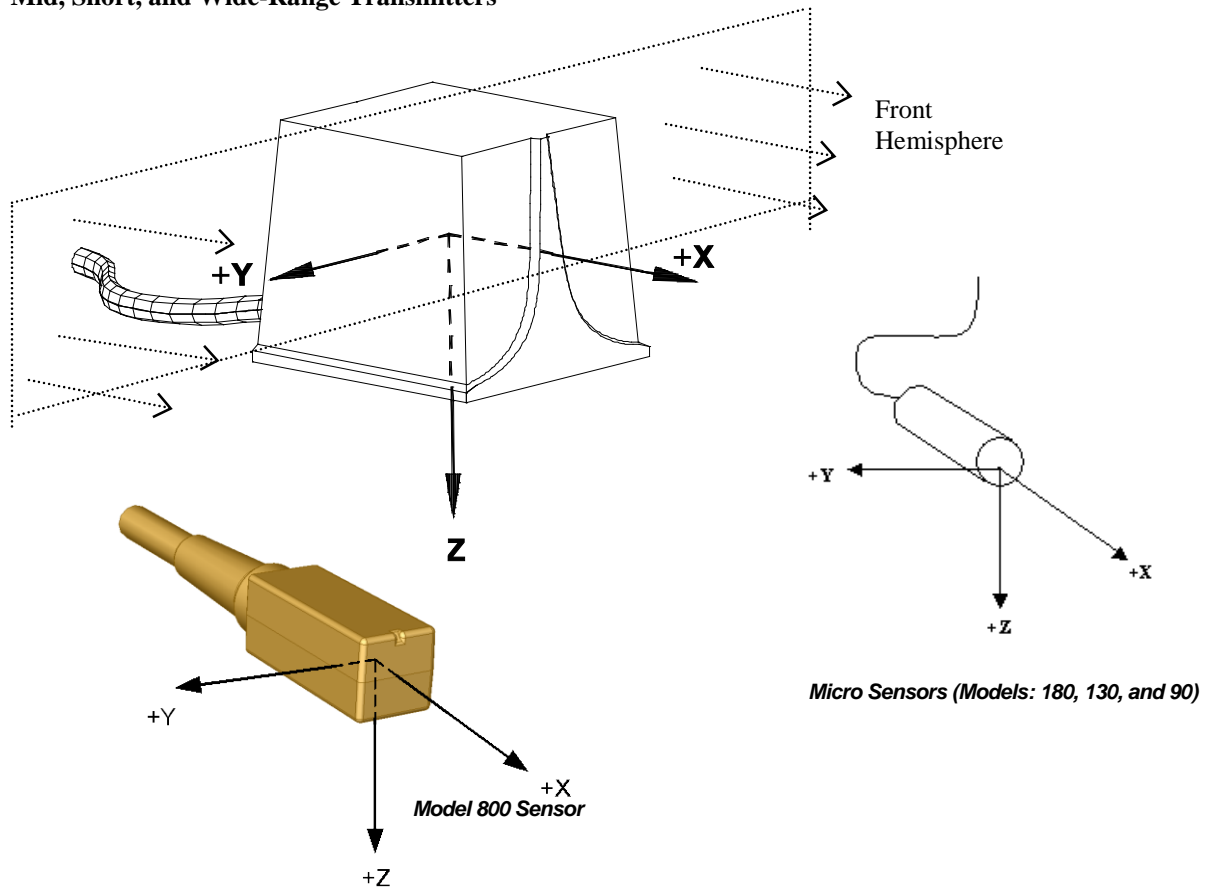

Figure 3.1: Default Transmitter/Sensor Coordinate Frames
- Reference Frame*** The default driveBAY reference frame is defined by the Transmitter's X, Y, and Z axes (see Figure 3.1). This Reference Frame setting allows you to enter the angles required to mathematically align the axes of the Transmitter to those of a new reference frame.